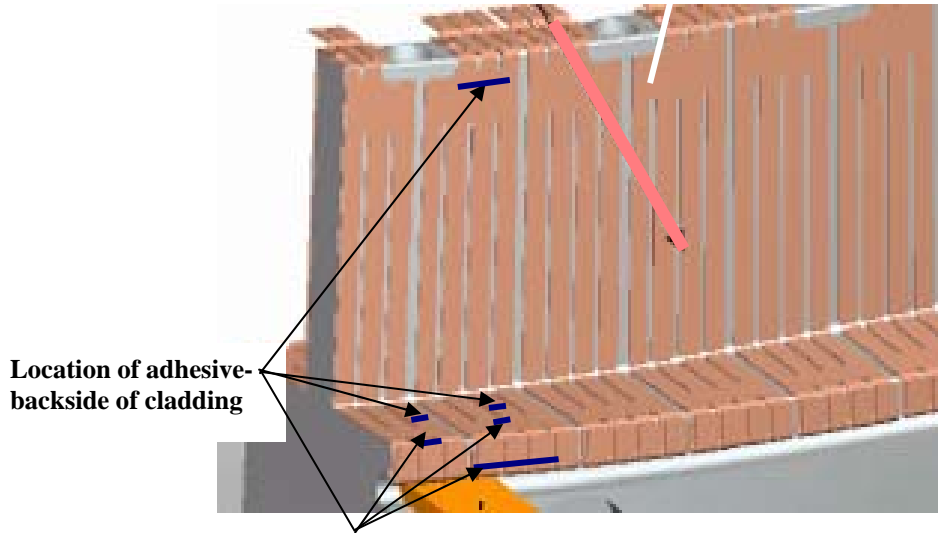
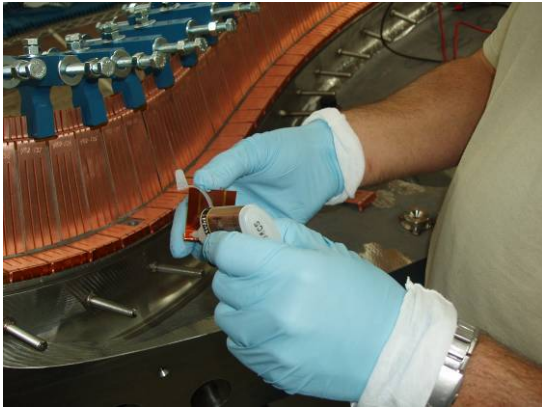

Figure 25- Installation of Cladding
Figure 29- Applying Adhesive to Horizontal Cladding
- Apply a minimal quantity [drop] to the back of the cladding at the top bend and on the back of the outside fingers of the strip on the bottom. Evenly spread out the adhesive to a thin film avoiding any thick areas on the cladding. See Figure 25- Installation of Cladding for location of adhesive. Figure 26-Applying Adhesive to Vertical Cladding. Do not apply adhesive to the upper - sections of the cladding.
- Apply a minimal quantity [drop] to the back of the cladding at the edge bend and on the back of the outside fingers of the strip on the short leg of the cladding. Evenly spread out the adhesive to a thin film avoiding any thick areas on the cladding. See Figure 25- Installation of Cladding for location of adhesive. Figure 29- Applying Adhesive to Horizontal Cladding].